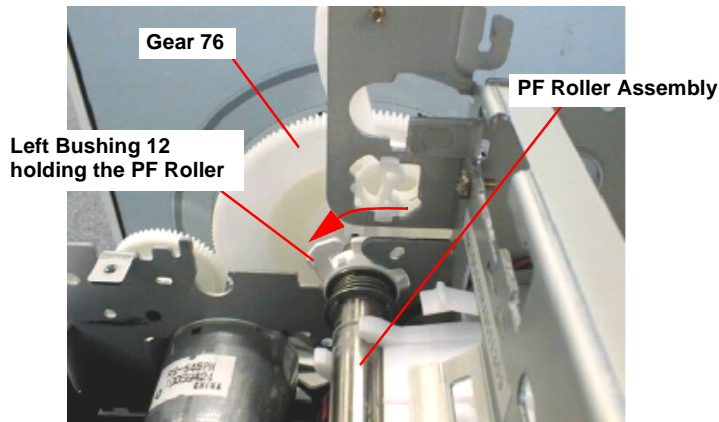

Figure 4-63. Setting the protrusion on Bushing 12
- 16) Release the fixed hook of the Left Bushing 12 holding the PF Roller Assembly and turn the bushing forward to align it with the cut in the Left Frame. Refer to Figure 4-63